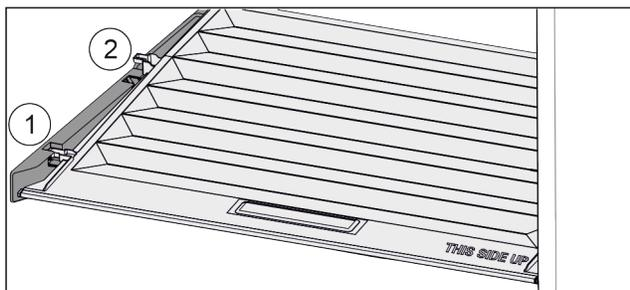

Fig. 123
- ▶ Pull the lid up at the front in the retaining parts to the opening *Fig. 123 (1)*.
- ▶ Lift from the back and pull it up and out *Fig. 123 (2)*.